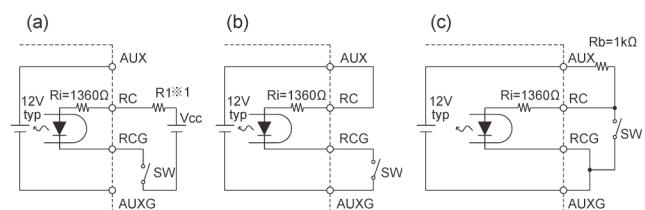

Fig.1.3 Examples of connecting method for remote ON/OFF
■ The remote ON/OFF function can be operated by sending signals to CN3. Please see Table 1.2 and Table 1.3 for specifications and Fig.1.3 for connecting examples.
- ① The output stops when a current flows to RC.
- ② The current flown to RC is a 15mA max.
- ③ If the output voltage is turned off through the remote ON/OFF circuit, the WRN signals and the PG signals keep "Low".
- ④ Description in this section is based on the assumption that you will use one unit alone. If you are planning to use the units in parallel operation or use multiple units for a single system, please check necessary voltage and current values.
Table 1.3 Specifications of remote ON/OFF (Case of Fig.1.3)